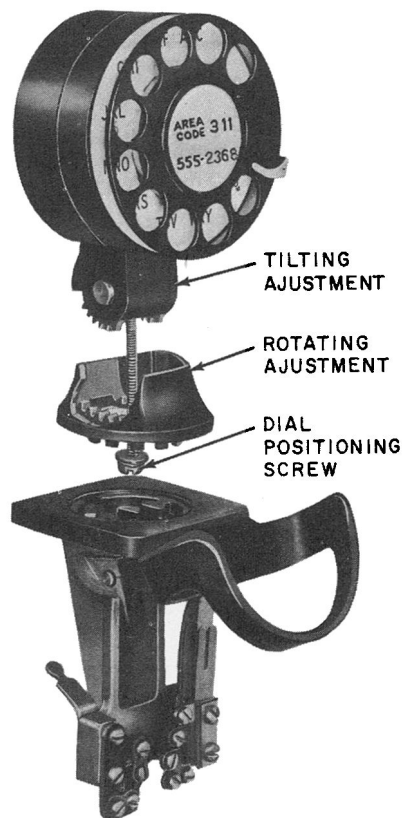

Fig. 3—Positioning Adjustments of 43A Dial Mounting
3.08 The 43A dial mounting used with G-type handset mounting is arranged so dial may be rotated. Dial is locked in one of 12 positions, 30-degree intervals, by means of notches in base of dial mounting. Notches engage two studs at the top of handset mounting. Dial may be rotated as follows (Fig. 3):
3.09 The 43A dial mounting may also be tilted as much as 45 degrees backward in 15 degree intervals. Dial is tilted as follows (Fig. 3):